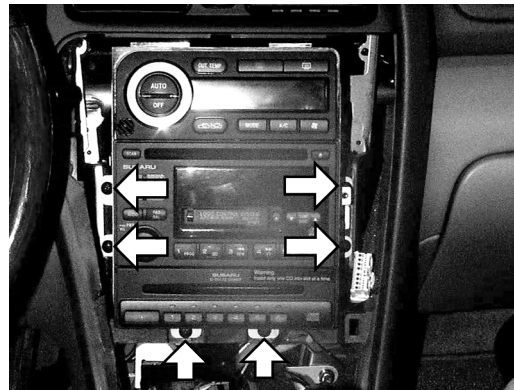

Figure 5
5. Remove the six screws indicated by the arrows in Figure 5. Do not disconnect any connectors. Pull the unit out just far enough to access the passenger side of the unit. See Figure 6.